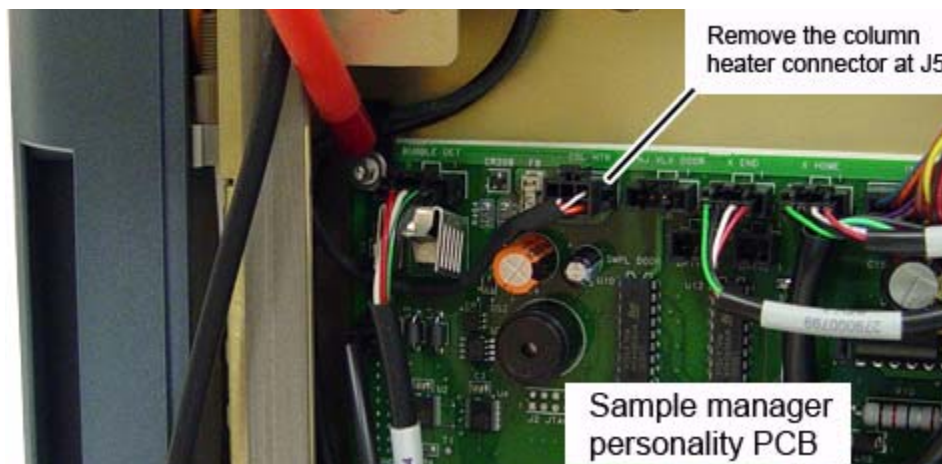

Figure 2 - Removing the J5 Connector
4. Disconnect the column heater cable from the sample manager personality PCB at J5 (Figure 2).
10. Attach the other end of the jumper cable to J5 on the sample manager personality PCB (Figure 2).